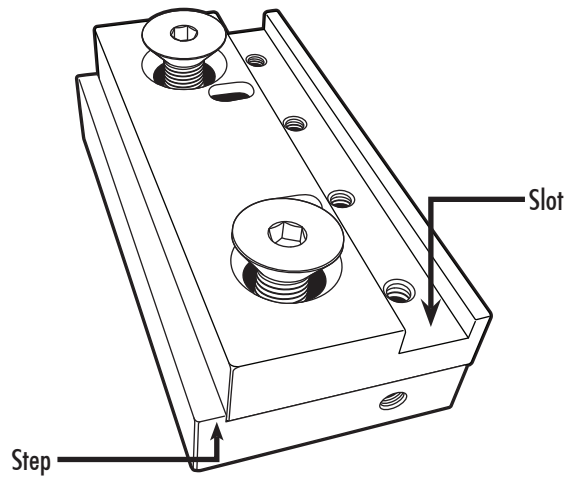

FIGURE 4
2. Mount the top jaw (P/N 35522) onto the FBP. First make sure that all of the mating surfaces of the top jaw and bottom plate are clean. It is recommended that you wipe a thin layer of grease, or Anti-seize onto the threads and the 82° taper of the 82° clamping screws P/N 35523. Mount the top jaw onto the top of the FBP with the insert slot of the top jaw on the side opposite of the step on the FBP (see Figure 4).